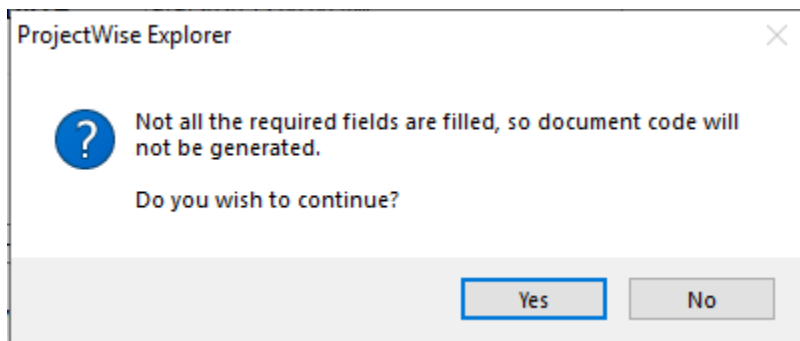

Figure 3.12. Error screen when the "Generate" button is not selected prior to moving forward.
- **Freeform (20):** Refer to Section 3.1 for additional guidance. There is a 20-character alphanumeric limit for this field.
- **“Generate” Button:** The User should always select “Generate” in order to confirm the correct number in the sequence of files. If the “Generate” button is not selected, then an error popup window shown in Figure 3.12 will ask for confirmation before moving to the next screen. Select “No”.